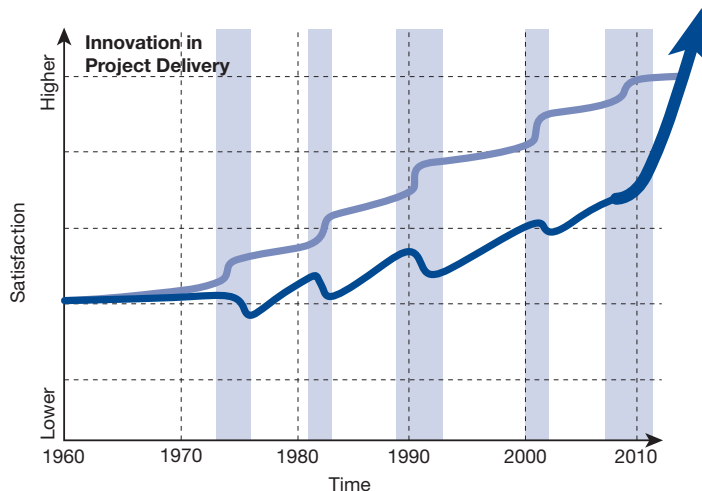

Figure 3.23 Together, BIM and integrated design can lead to increased productivity for design and construction. *Sam Spata, Architect, AIA, LEED*
**KF:** My first client when I started my firm was Sears. I worked for their store planning and construction group. They would turn to me when they had a technology question. Whenever Sears had a business challenge, they looked to technology to be a big component of the answer. It was just their mindset. They wouldn't consider approaching a business problem without considering what technology could contribute. I don't see that enough in design firms. How do we pursue a business goal? We define it. Then what do we do? Try to figure out how to get there. What do we use to get there? We've got marketing. We've got production. And we've got technology. So we want the marketing guys to go out and sell this idea. And we want the production guys to ramp up to be able to deliver. Is there something we can do with technology that could give us a competitive advantage? That would make the ramp-up easier? Or we're moving into a new service and need the technology to provide it. I don't see enough of that. Technology is an afterthought with most firms. BIM is no exception. It's like “Oh [expletive], we ought to do BIM!” It's hardly a strategic approach. To a great extent, design firms are late adopters of technology. (See Figure 3.23.)